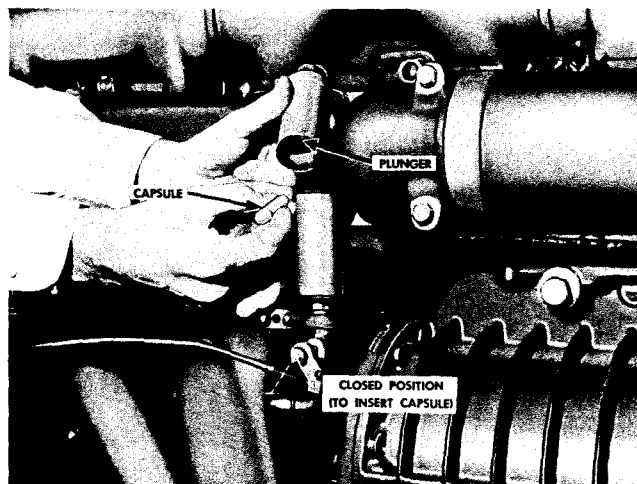

Fig. 2-5. Ether compound metering equipment
2. Remove cap and insert capsule of starting fluid. Fig. 2-5.